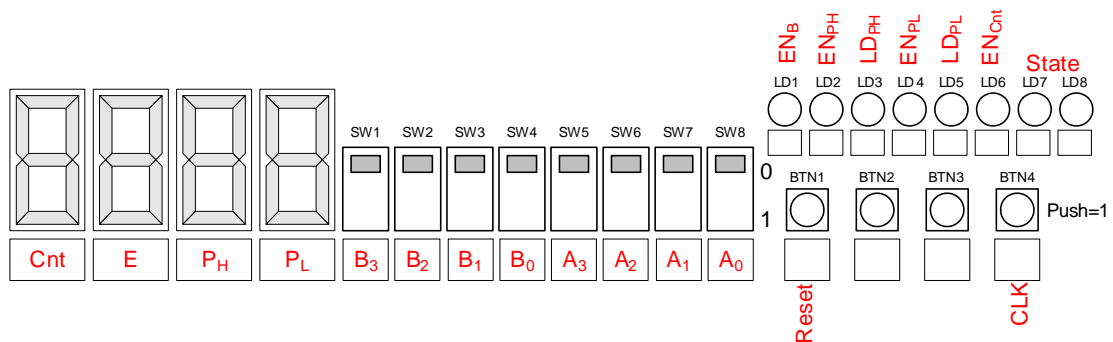

Figure 12.8: Multiplier Inputs/Outputs Assignment.
15. Use four switches (SW5-SW8) to load the *multiplier* (A) into P_L , and four switches (SW1-SW4) to load the *multiPLICand* (B) into its register as in Figure 12.8.